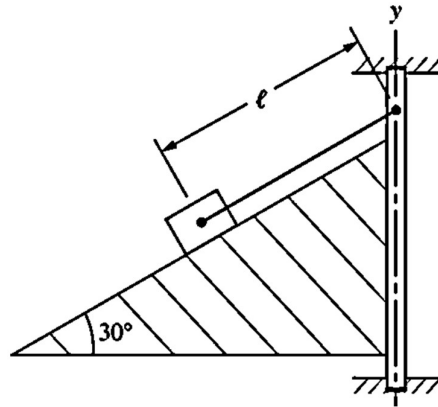

Fig. 3
- Q.4 A block, assumed to be a particle and weighing 40 N, rests on a plane which can turn about the y axis, see Fig. 3. The length of the cord l is 1.2 m. What is the tension in the cord when the angular velocity of the plane and block is 10 rev/min? [5] CO1, CO3 2